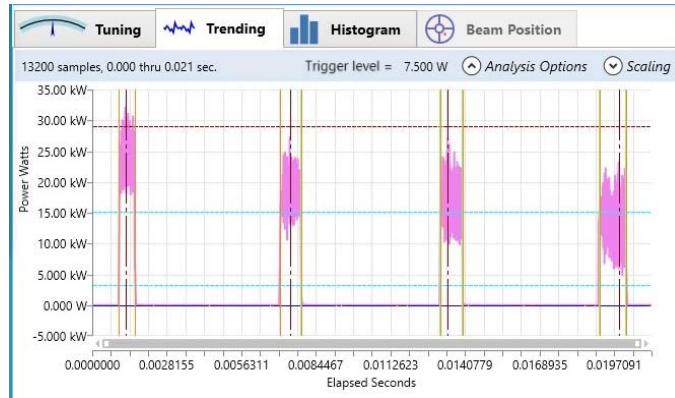

Figure 7-39. Compare Captures
3. To capture all FOUR pulses generated in this example, use the mouse to drag the blue line down further, to approximately 15 kW, as shown in the following example in Figure 7-39.